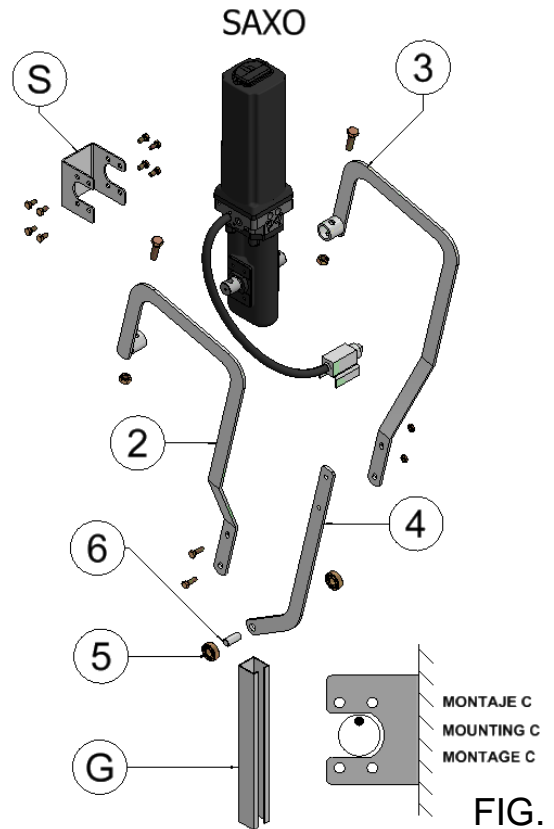

FIG. 7
### Installation accessories Figure 7.
2. The point marked on the rotary shaft on the right-hand side of the operators 1RM\* and 2RMI\* and must be as shown in figure 7. Before welding parts "1", "2", "3" and "4" of figure 7 to the operator as shown in figure 7 the operator should be rotated approximately 5 degrees away from the end position. Then fit parts "5" and "6" of figure 7.
3. Fix part "G" of figure 7 to the door as shown in figure 5.